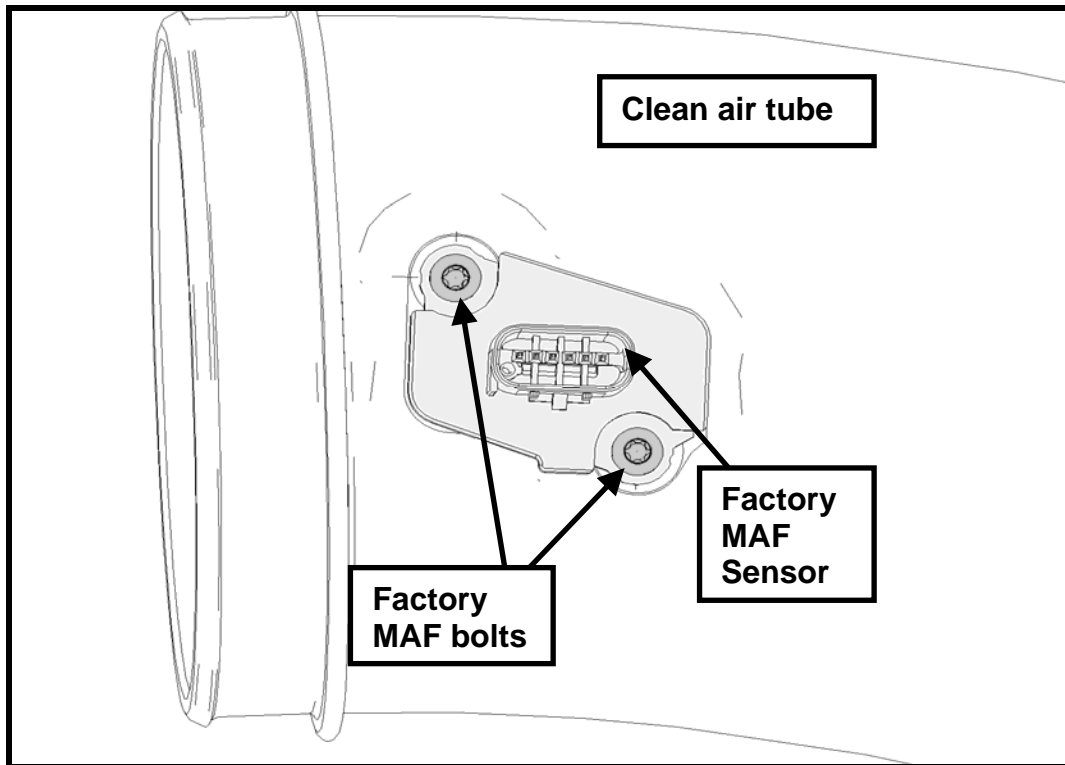

Fig. 4
**STEP 1:** Install the MAF sensor and bolts from the stock airbox into the new clean air tube (R07060101). Torque the bolts to 4 Nm (35 lb in) (See Fig. 4).